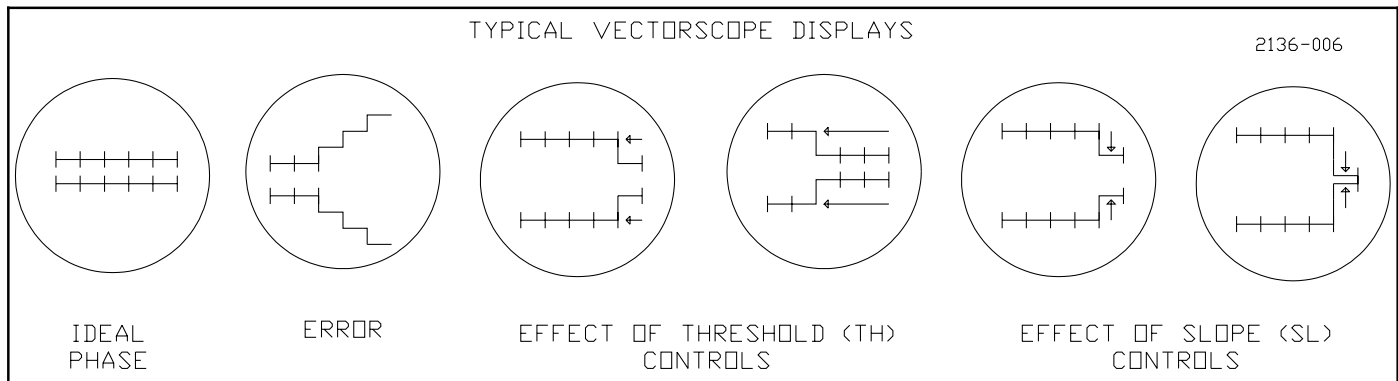

Figure 5-2. Diff. Phase, Effects of TH and SL Controls
7. Adjust the modulator video level control for 700 mV at peak of sync and mod bias control for 88mV p-p at white for CCIR - M (12.5% ratio) or 70mVp-p at white for CCIR - B (10% ratio). See Figure 5-2. The two controls interact so it will be necessary to go back and forth until both conditions are achieved at the same time.